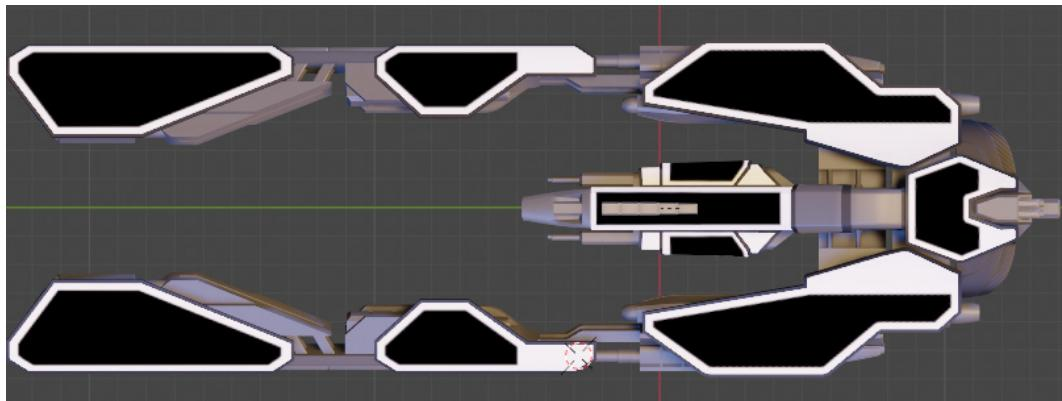

Figure 6.39 – Painted outlines
4. Paint some outlines and shapes on all the armor panels using this tool. *Figure 6.39* might give you some ideas: